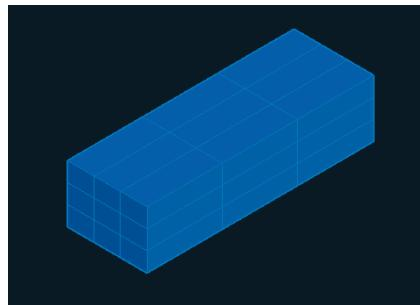

FIGURE 17.30 Creating a mesh box
3. Select the Mesh panel on the ribbon and click the Mesh Box tool. Click an arbitrary first corner point somewhere to the left of the ventilation towers. Type **20**, press Tab, type **7**, and press Enter. Move the cursor above the object, type **5**, and press Enter to specify the height of the mesh box (see Figure 17.30).